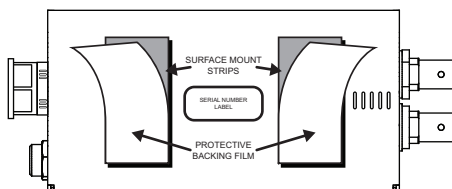

Figure 4 Surface Mount Installation Option
2. Adhere the **Surface Mount Strips** to the bottom side of the chassis. (**Figure 4**)